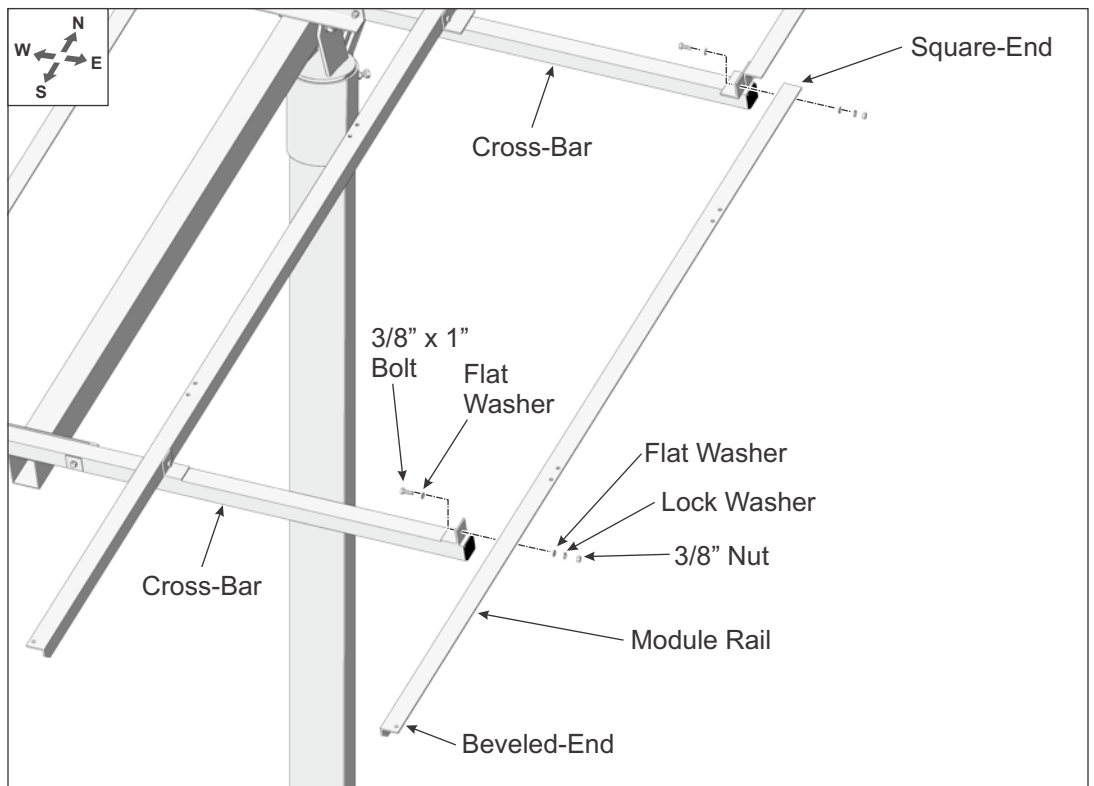

Figure 4-5: Installing the Southern-most outboard Module Rails to Cross-Bars
- B. Install the next Module Rail creating a butt joint with the previously installed Module Rail. (See Figure 4-5)
- C. Position Module Rail with its angle cut end positioned south and its square cut end butting up to the end of the previously installed Module Rail. Secure with 3/8" x 1" bolts and hardware. Finger-tighten for now. (See Figure 4-5)